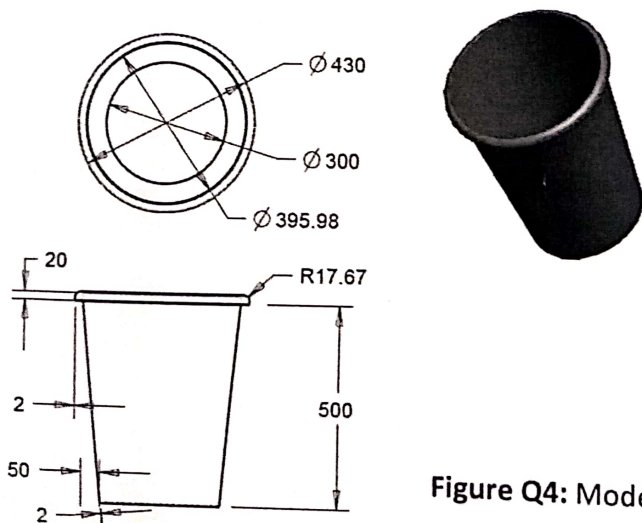

Figure Q4: Model of a Bucket
- d) Without necessarily giving attention to the detailed dimensions provided, describe how you will model the bucket shown in Figure Q4 using Pro/E